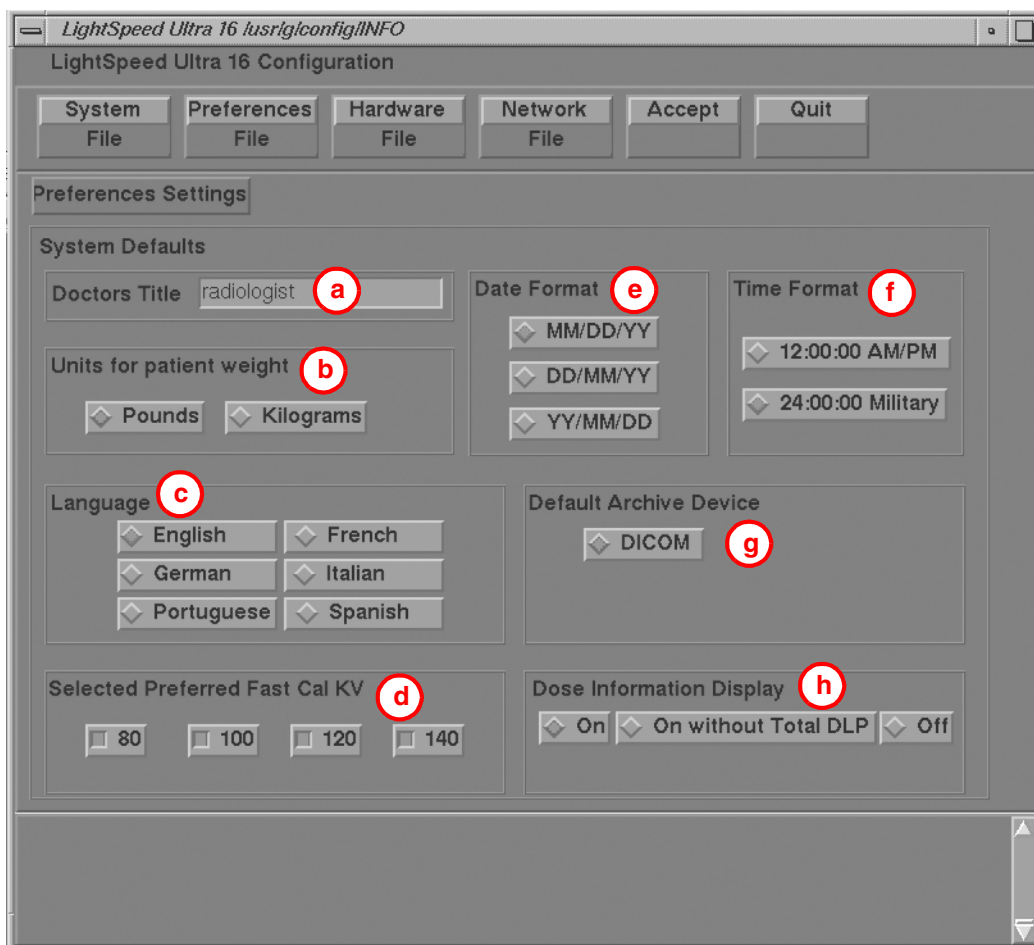

Figure 2-3 Preferences Setup Screen
- 5.) Select the PREFERENCES button to display the Preference Settings Screen as shown in Figure 2-3.
- 6.) Regenerate Database (refer to Figure 2-3) determines whether the Scan Database will be regenerated during reconfiguration. You should select NO.